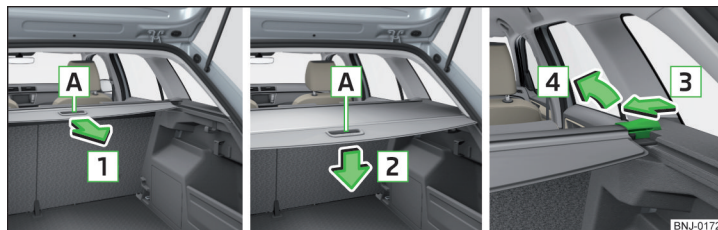

Fig. 109 Roll-up cover: extending/retracting/removing
- Grasp the cover at grip-point **[A]** and pull it out in the direction of the arrow **[1]** until it audibly clicks into place » Fig. 109.
- Push the cover in the handle area **[A]** in the direction of arrow **[2]** » Fig. 109. The cover rolls up automatically. The rolled-up cover can now be removed.
- Press on the side of the cross bar in the direction of arrow **[3]** and remove the cover in the arrow direction **[4]** » Fig. 109.
- To **install**, remove the retractable luggage compartment cover » Fig. 109 on page 84 or the fold the rear seat backrests forwards » page 70.